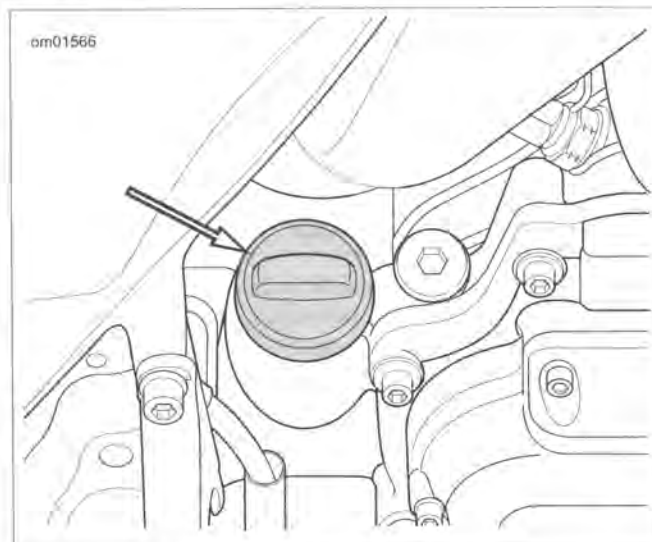

Figure 1-1. Engine Oil Filler Cap
2. See Figure 1-1. Remove filler plug/dipstick and wipe off the dipstick. Insert the dipstick and tighten into the fill spout.
3. See Figure 1-1. Remove filler plug/dipstick and wipe off the dipstick. Insert the dipstick and tighten into the fill spout.